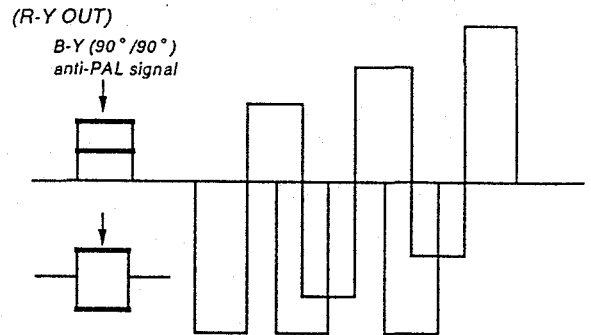

Fig. 16
- 4) Adjust [B-Y PHASE PAL] so that the B-Y anti-PAL signal waveform is 0. (Fig. 16)